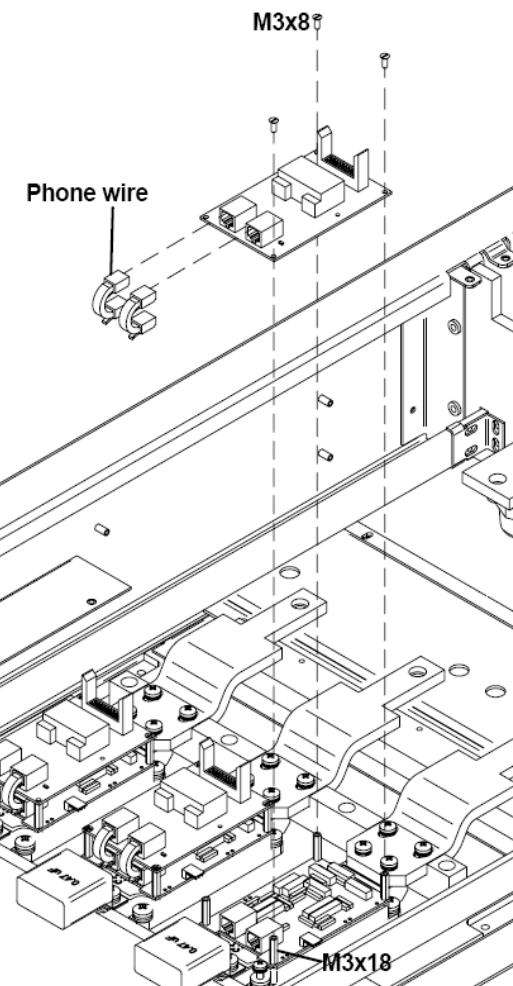

Figure 4.17. Assembly of the Upper Gate Drive
Follow *figure 4.17* while reading these instructions:
- 2) Place the next board on the hexagonal spacers **M3x18**. (*figure 4.17*).
Follow *figure 4.17 (a)* and *figure 4.17 (b)* while reading these instructions: